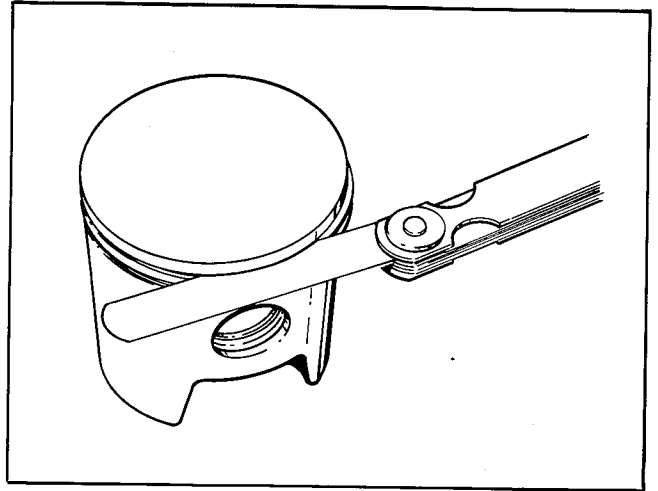

Figure 7-11 - Ring Side Clearance
- a. See Figure 7-11. Check the side clearance of the rings in the piston grooves using a feeler gauge. Side clearance should be .0025-.0045 in.